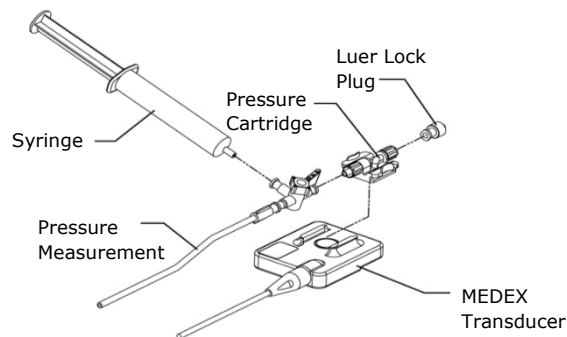

Figure 12: Transducer Setup
- Remove disposable cartridges from their packages. Remove protective covers from the back and from the connector ends of the cartridges. Slide a cartridge over each transducer until it clicks in place (Figure 12).